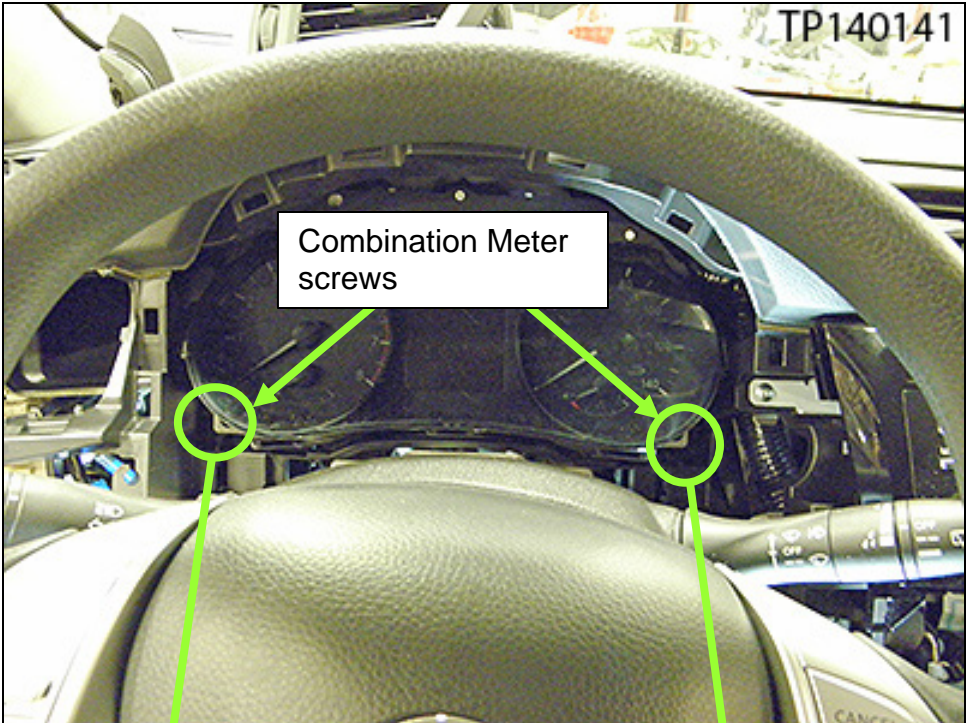

Figure 15
12. Remove the two (2) screws holding the Combination Meter shown in Figure 15.